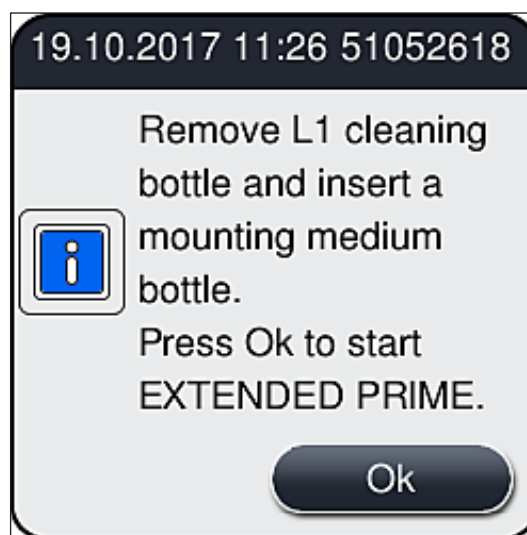

Fig. 104
- » Following this, the user is prompted to remove the cleaning bottle from the instrument and to insert a new bottle with mounting medium. After the insertion, acknowledge the information message (→ Fig. 104) with **Ok**. Dispose of the contents of the cleaning bottle in accordance with laboratory regulations.